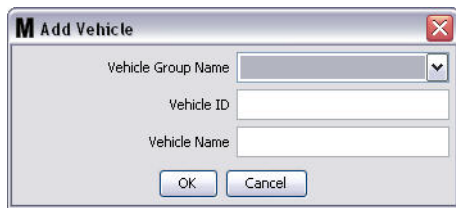

FIG. 155
6. The Add Vehicle screen shown in FIG. 155 displays.